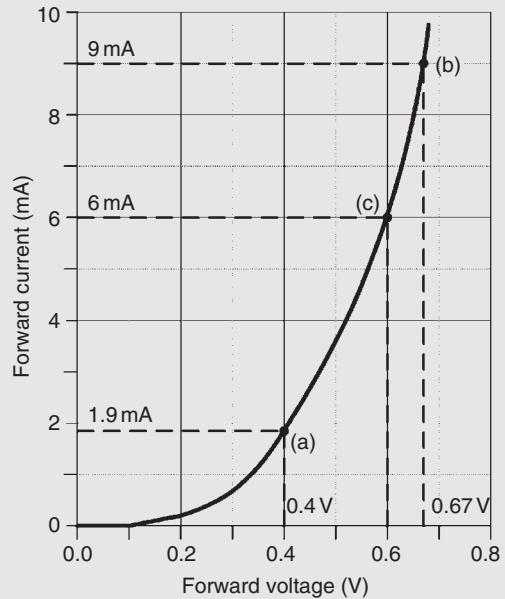

Figure 11.11
**Problem 4.** The forward characteristic of a diode is shown in Fig. 11.11. Use the characteristic to determine (a) the current flowing in the diode when a forward voltage of 0.4 V is applied, (b) the voltage dropped across the diode when a forward current of 9 mA is flowing in it, (c) the resistance of the diode when the forward voltage is 0.6 V, and (d) whether the diode is a Ge or Si type.
- (a) From Fig. 11.11, when  $V = 0.4 \text{ V}$ , **current flowing,  $I = 1.9 \text{ mA}$**